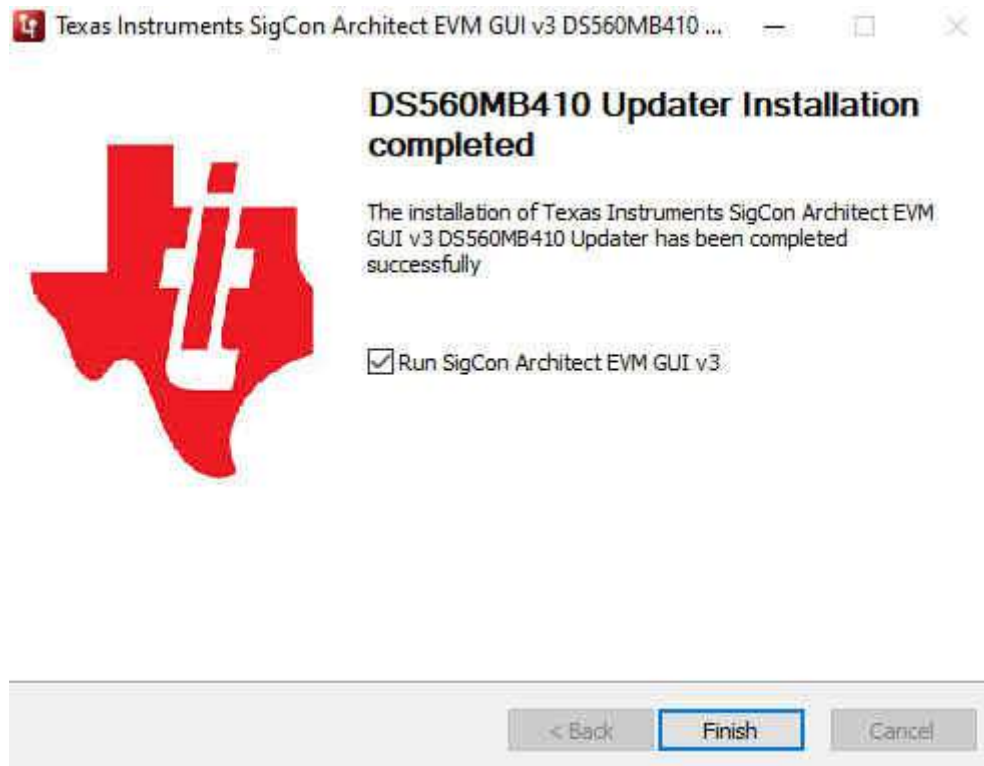

Figure 5-3. DS560MB410 Profile Installation Complete
| Figure 5-3. DS560MB410 Profile Installation Complete..... | 6 |
5. When complete, the user will be presented with an *Installation completed* window, shown in Figure 5-3. Press **Finish** to continue. If **Run SigCon Architect EVM GUI v3** is selected, then SigCon Architect 3.0 will open.